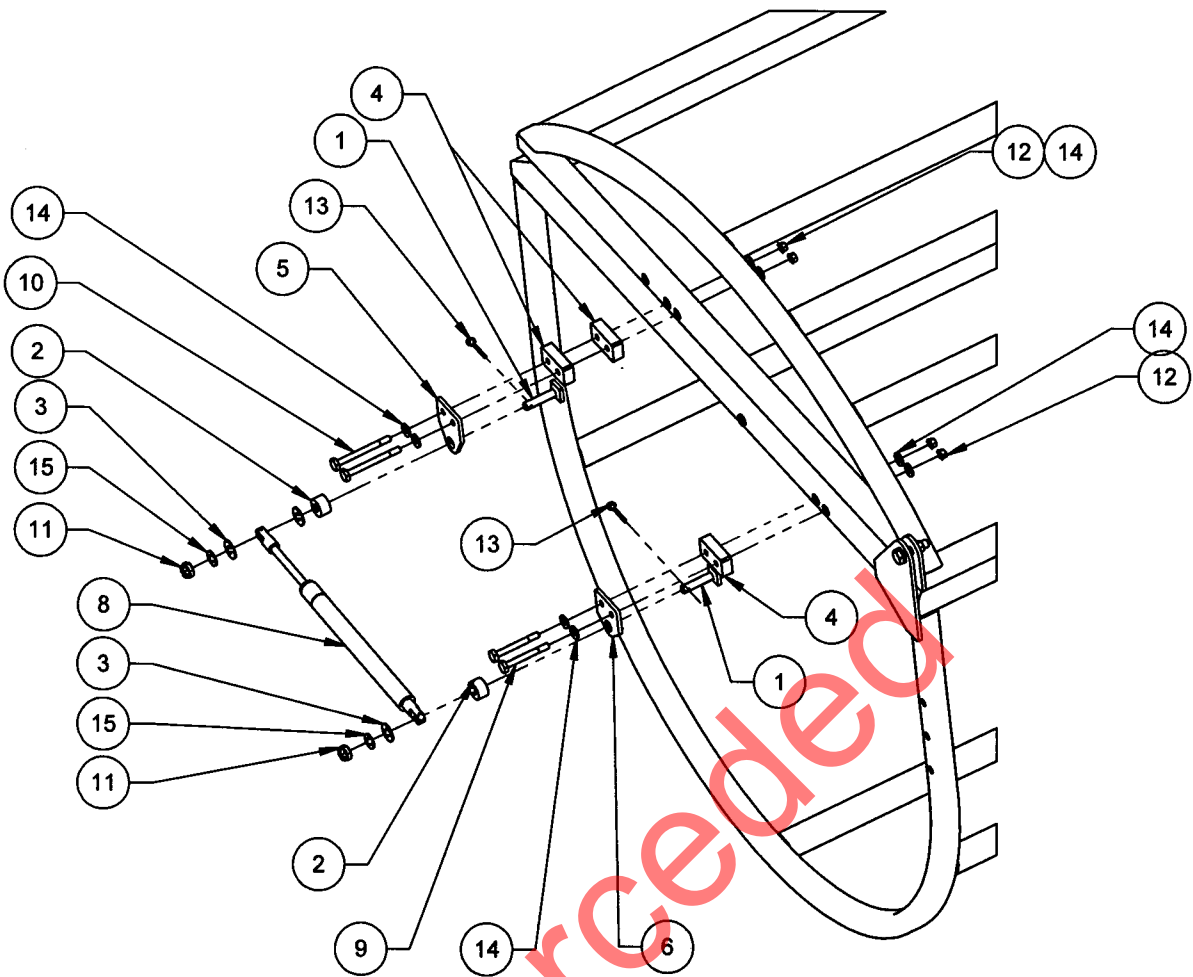

FIGURE 3: D205-541-051 GAS SPRING KIT INSTALLATION
- 3.4 Install D3953-17 Gas Spring Spacer (qty 2) and D3953-19 Gas Spring Bracket to the basket lid using 2X AN3-20A bolts, NAS1149F0363P Washers and MS21042L3 Nuts as shown in Figure 3.
- 3.6 Install the D3953-17 Gas Spring Spacer and D3953-21 Gas Spring Bracket to the basket base using 2X AN3-14A bolts, NAS1149F0363P Washers and MS21042L3 Nuts, as shown in Figure 3.